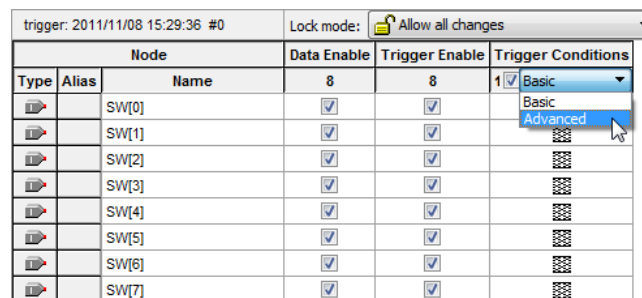
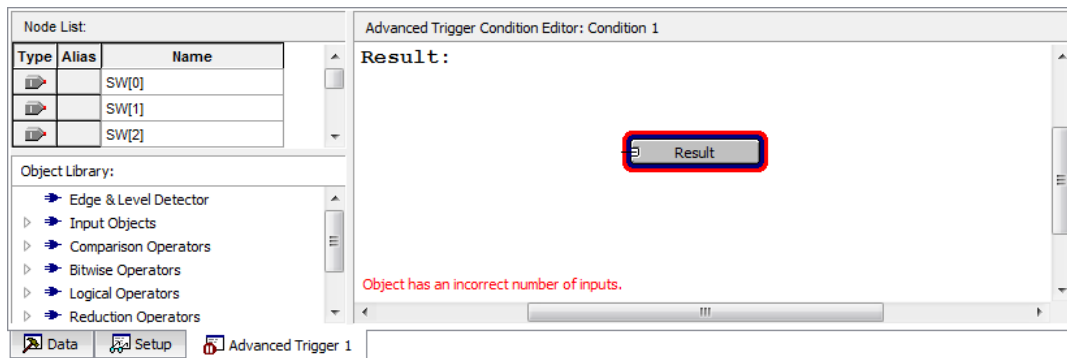

Figure 16. Select Advanced from the Trigger Level dropdown menu.
Figure 17. The Advanced Trigger editing window.
3. In the Trigger Conditions column of the node list, make sure the box is checked and select **Advanced** from the dropdown menu as in Figure 16. This will immediately bring up the window in Figure 17. This window allows you to create a logic circuit using the various nodes that you are probing with SignalTap.